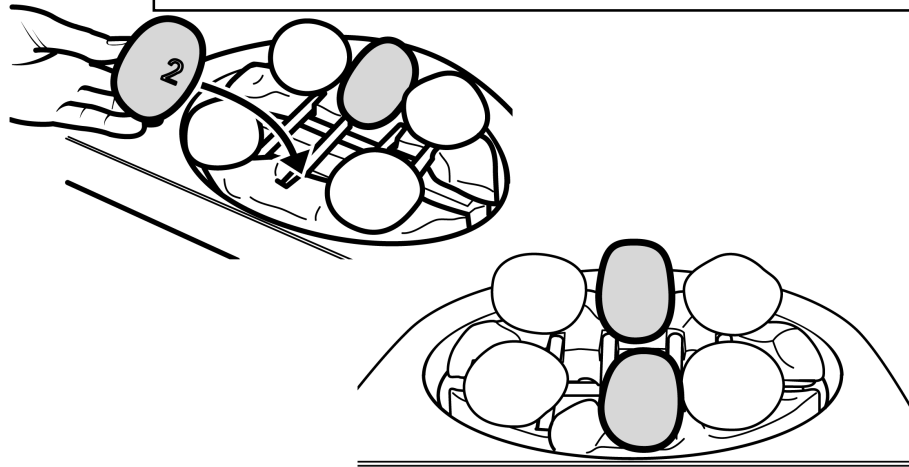

Figure 9 Pebble number '2' Location
6. There are two pebbles numbered '2' on the underside. Locate these on the pebble base between the ends of the inner left and right ceramic support rods (See figure 9).
between the ends of the inner left and right ceramic support rods (See figure 9).